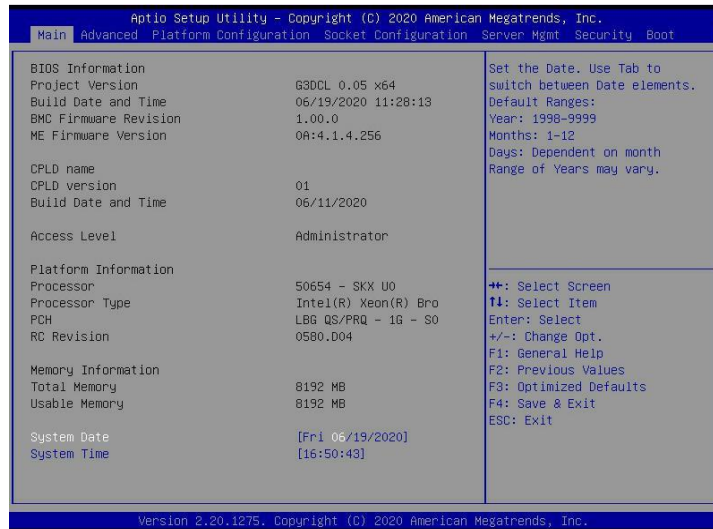

Figure 7-15 SOL operation interface
1. After clicking Activate, the SOL interface shown in Figure 7-15 will appear.